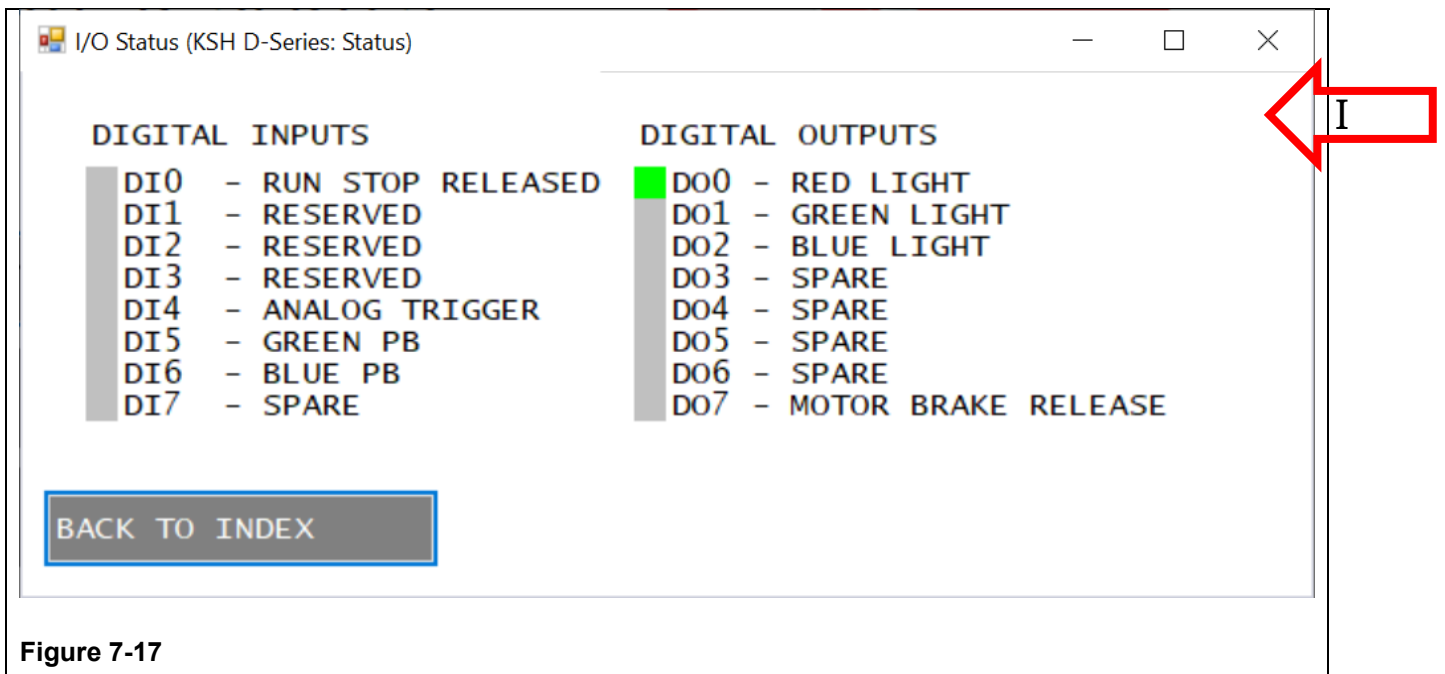

Figure 7-17
In section (I), if the indicator box is green then that I/O point is ON, but if that indicator box is gray then that I/O point is OFF. (Refer to Figure 7-17)